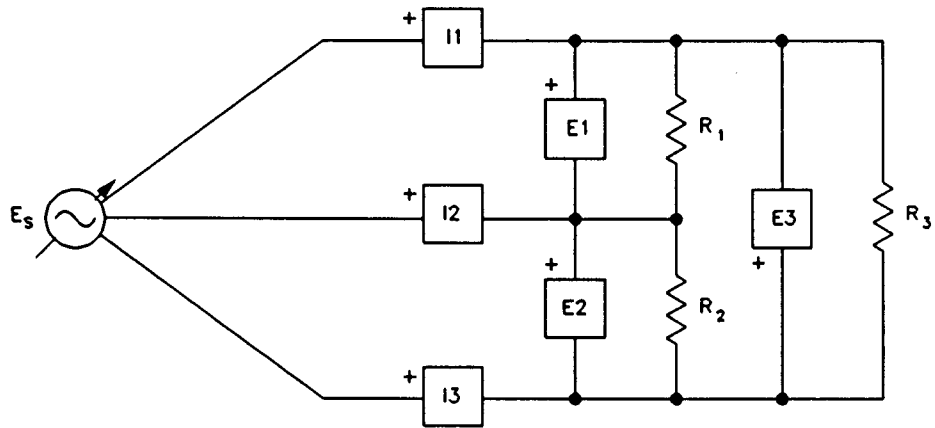

Figure 6-8. Measuring The Line Currents in The Delta-Connected Resistive Load.
27. Reconnect \$I_1\$, \$I_2\$, and \$I_3\$ as shown in Figure 6-8 to measure the line currents for the delta-connected load. Ensure that \$E_s\$ is set at the same value used in step 24. Select setup configuration file *ES16-5.cfg*. Measure and record the line currents and then turn off the power. Determine the average line current.